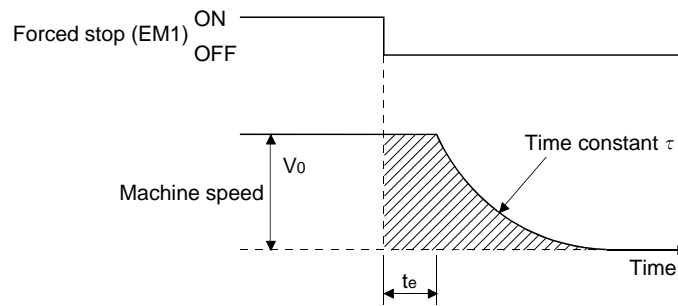

Fig. 10.3 Dynamic brake operation diagram
Fig. 10.3 shows the pattern in which the servo motor comes to a stop when the dynamic brake is operated. Use Equation 10.2 to calculate an approximate coasting distance to a stop. The dynamic brake time constant  $\tau$  varies with the servo motor and machine operation speeds. (Refer to paragraph (2) of this section.)